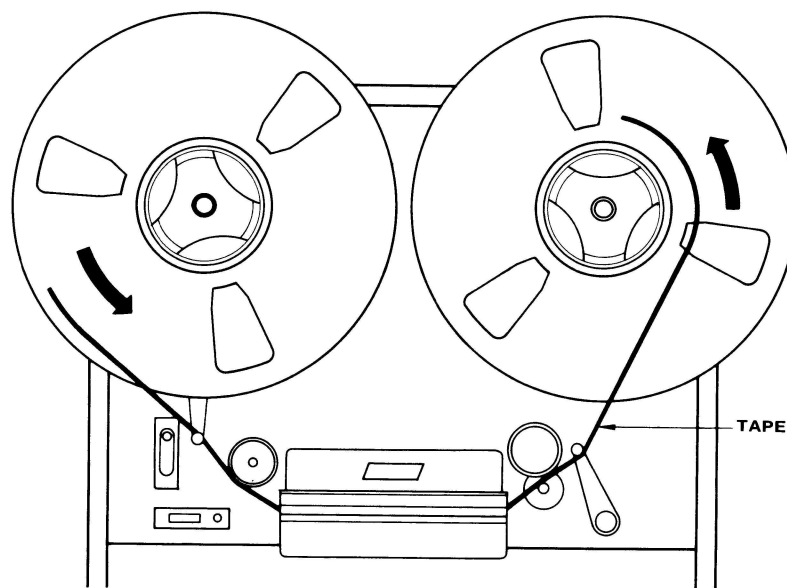

Fig. III-1 Tape Threading
3. Thread tape as shown in Fig.III-1 and place the end of the tape in the slot in the empty reel. Wind the reel counterclockwise three to four turns to remove slack and operate the tension-arm safety switch.